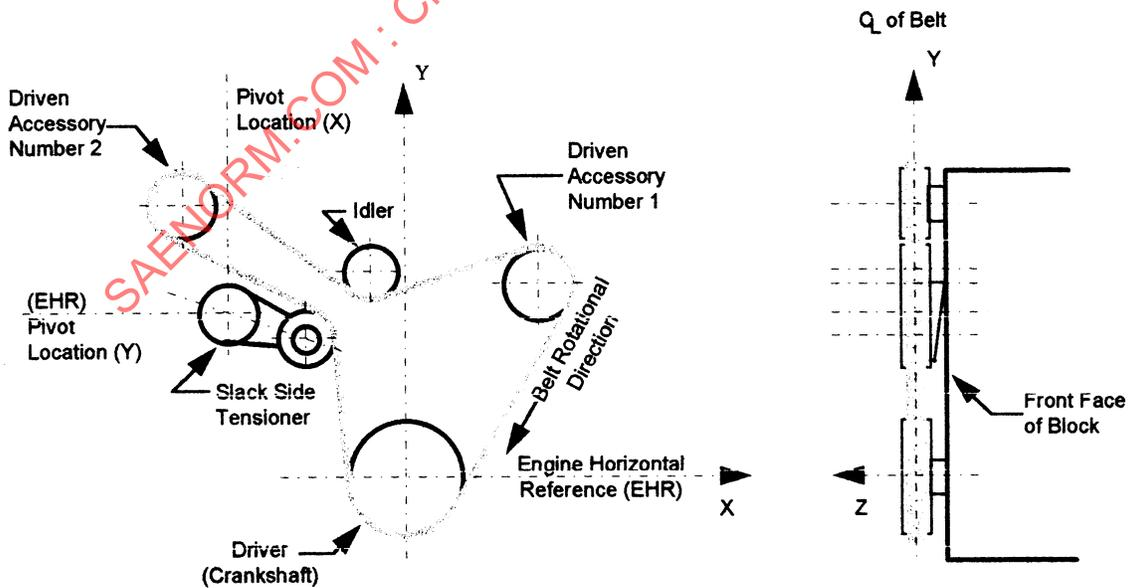

FIGURE 4—SYSTEM LAYOUT
- 3.4 **Tensioner Pivot Location**—The x,y coordinates of the tensioner pivot as compared to the center of the driver pulley at (0,0). (See Figure 4.)
3.8 **Slack Side Tensioner**—The tensioner located between the driver pulley and the first load-carrying component in the direction of belt travel (routing idlers are not considered load-carrying components). (See Figure 4.)
4.1 **Tensioner Arm Angle**—The angle of the line from the center of the tensioner pivot to the center of the tensioner pulley measured counter clockwise in accessory drive system polar coordinates where 0° = positive x-axis. (See Figures 4 and 5.)